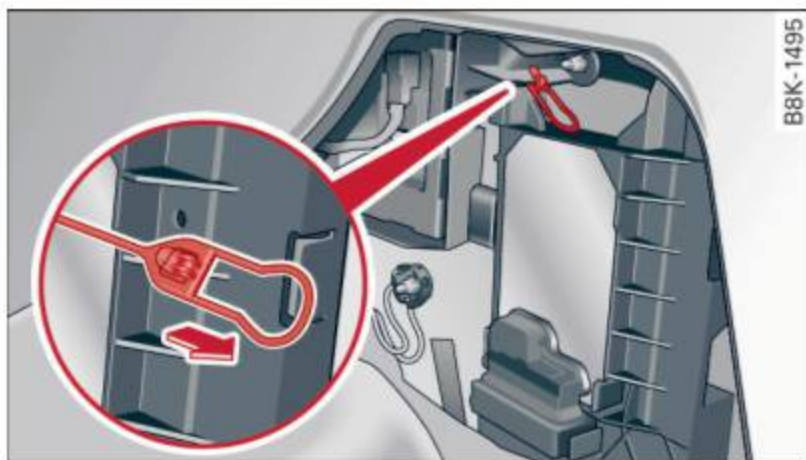

Fig. 166 Luggage compartment: Emergency opening of fuel filler flap
- ▶ Loosen the strap from its bracket and pull on it ⇒ *fig. 166*. You can now open the fuel filler flap as usual ⇒ *page 213*.